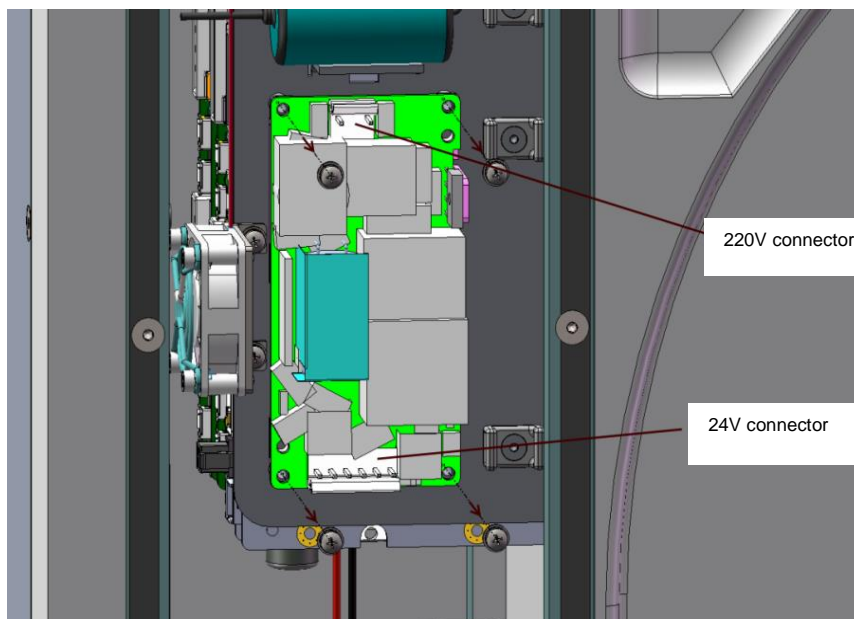

Figure 5-7 Removal of power module
Step 5 Use the cross screwdriver to remove the fastening screws from the power module, as shown in Figure 5-7.